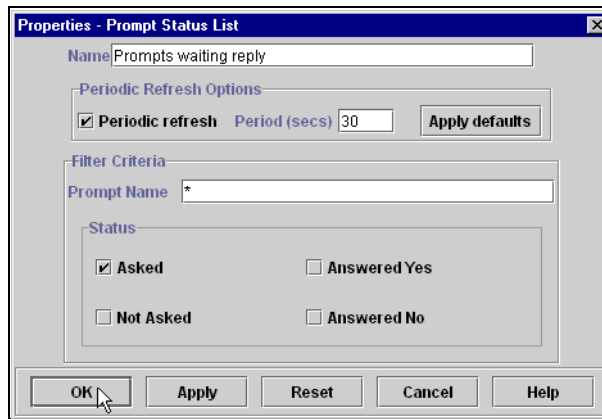

Figure 93. Prompt Status List properties
2. Enter the name, Prompts waiting reply, as shown in Figure 93 on page 122.